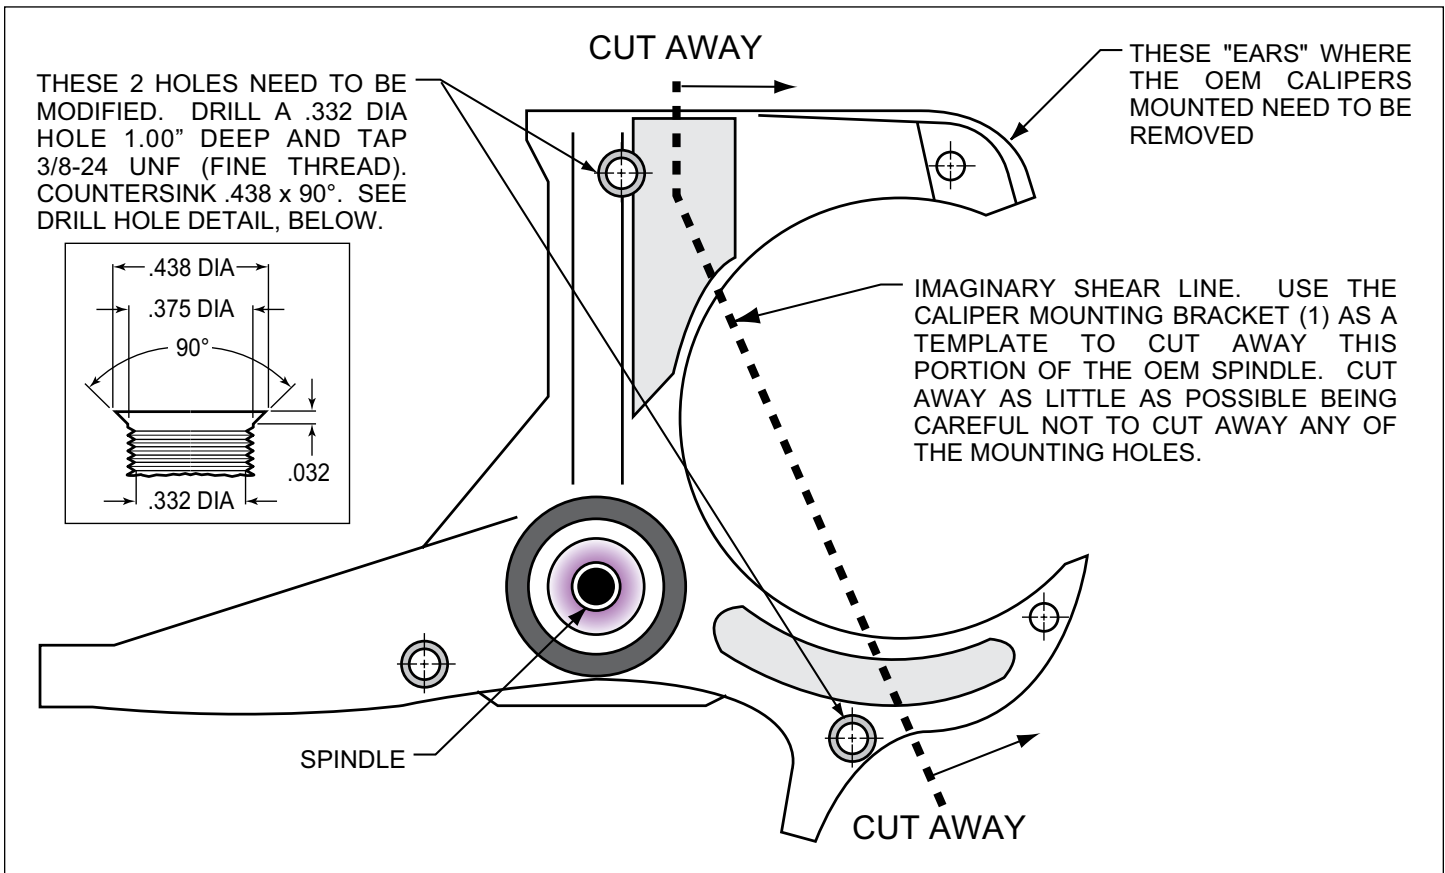

Figure 1. Steering Arm / Spindle Modifications
NOTE: These modifications should be performed by a qualified machinist and completed before assembly of the Wilwood disc brake kit begins. Refer to Figure 1 as necessary (numbers in parenthesis refer to the parts list). Only one view of the steering arm/spindle is shown, but the modifications need to be performed on both steering arm/spindles.
The two OEM holes that will be used to mount the caliper mounting bracket (1) need to be modified. Drill a .332 diameter hole through both holes, Figure 1, then tap 3/8-24 UNF (fine thread). Countersink the holes to .438 x 90°. The "ears" that protrude to form a "C" shape need to be removed to facilitate the installation of the Wilwood kit. Using the bracket as a template, mark two cut marks on the steering arm. Remove as little as necessary from the "C" shape, being careful not to cut away any of the mounting holes required to bolt on the bracket.
•Remove the two pad retaining pins from the caliper (16) by carefully popping out the pin retaining clips and sliding out the pins. Insert the brake pads (20) into the caliper from the bottom, Figure 1 and Photo 9, with the friction material facing the rotor. Secure the brake pads in place with the pad retaining pins and clips, Photo 10. Reinstall the caliper onto the caliper mounting bracket. Apply red *Loctite*® 271 to bolt threads (18), and torque to 40 ft-lb.